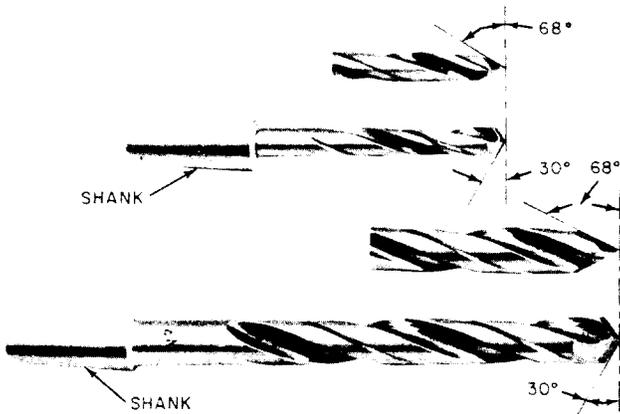

Fig. 2—Masonry Drills
3.03 The L Masonry Drill has a spiral fluting similar to twist drills used for drilling metal. The shank of the drill is tapered to fit the socket of the drill holder (Fig. 2).
5.04 Dull or unequal length cutting edges (a) and (b) may be restored to efficiency on an electric grinder. Maintain the same angle, (shown in Fig. 2), on the point as originally sharpened. See **Caution** in 5.02 regarding electric grinders. For all other defects (c), (d), and (e) the drills